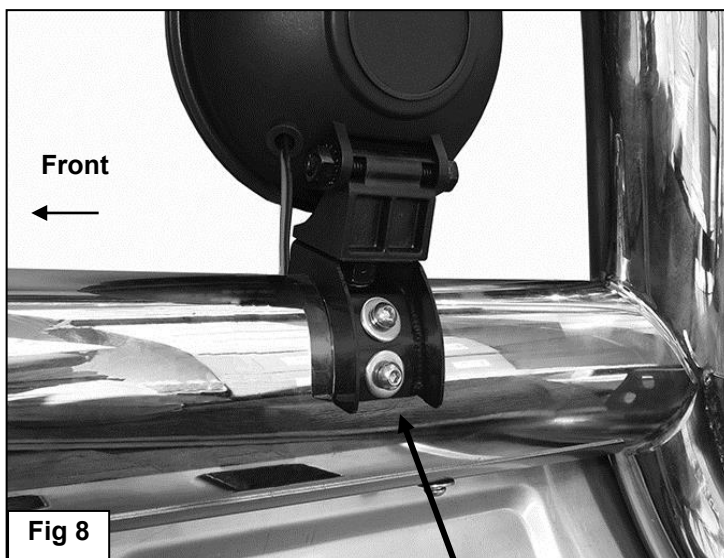

Fig 8
11. If aftermarket lights, (not included), are to be installed, remove the rubber plugs on the top of the cross bar. Select (1) Light Bracket, **(Figure 7)**. Attach the light to the Light Bracket using the hardware included with the light. Attach the light and Bracket to the back of the Bull Bar with (2) 6mm Button Head Bolts, (2) 6mm Lock Washers and (2) 6mm Flat Washers, **(Figure 8)**. Adjust the light as desired. NOTE: Depending on light design, repeated removal and reinstallation of the light and Bracket may be required for proper adjustment. Tighten all hardware.